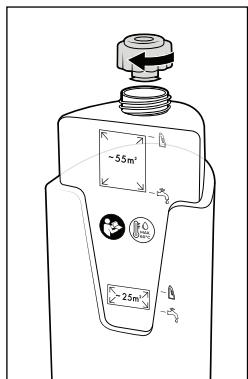

Fig. 10
- ◆ Close the lid of the fresh water tank ⑪ (see fig. 10).